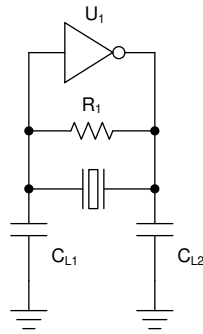

Figure 6-2. Pierce-Type Oscillator
Both crystal oscillators are pierce type oscillators are shown in Figure 6-2. In this type of oscillator, the crystal and the load capacitors form a pi-filter providing a 180° phase shift to the internal amplifier keeping the oscillator locked at the specified frequency. For this frequency to be correct, the load capacitance must be dimensioned properly based on the crystal’s capacitive load (CL) parameter.